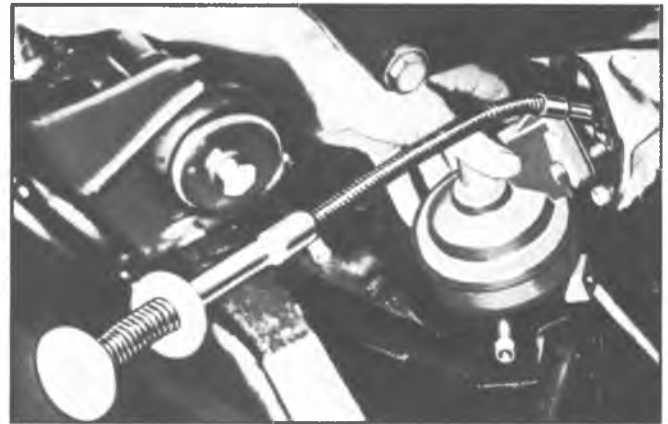

Fig. 4P--Installing V-8 Engine Fuel Pump
**NOTE:** On V8 engines, a pair of mechanical fingers or heavy grease may be used to hold fuel pump push rod while installing fuel pump (fig. 4P).